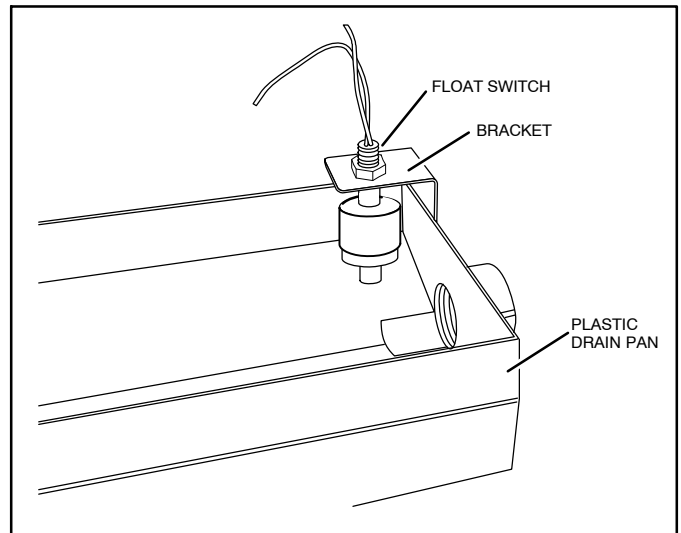

Figure 4. Float Switch Installation
- Install the drain pan switch assembly as illustrated in figure 4. The portion of the bracket with the two holes is positioned between the mullion and the inner support. Be certain that the clearance holes in the bracket align with those of the mullion and inner support.